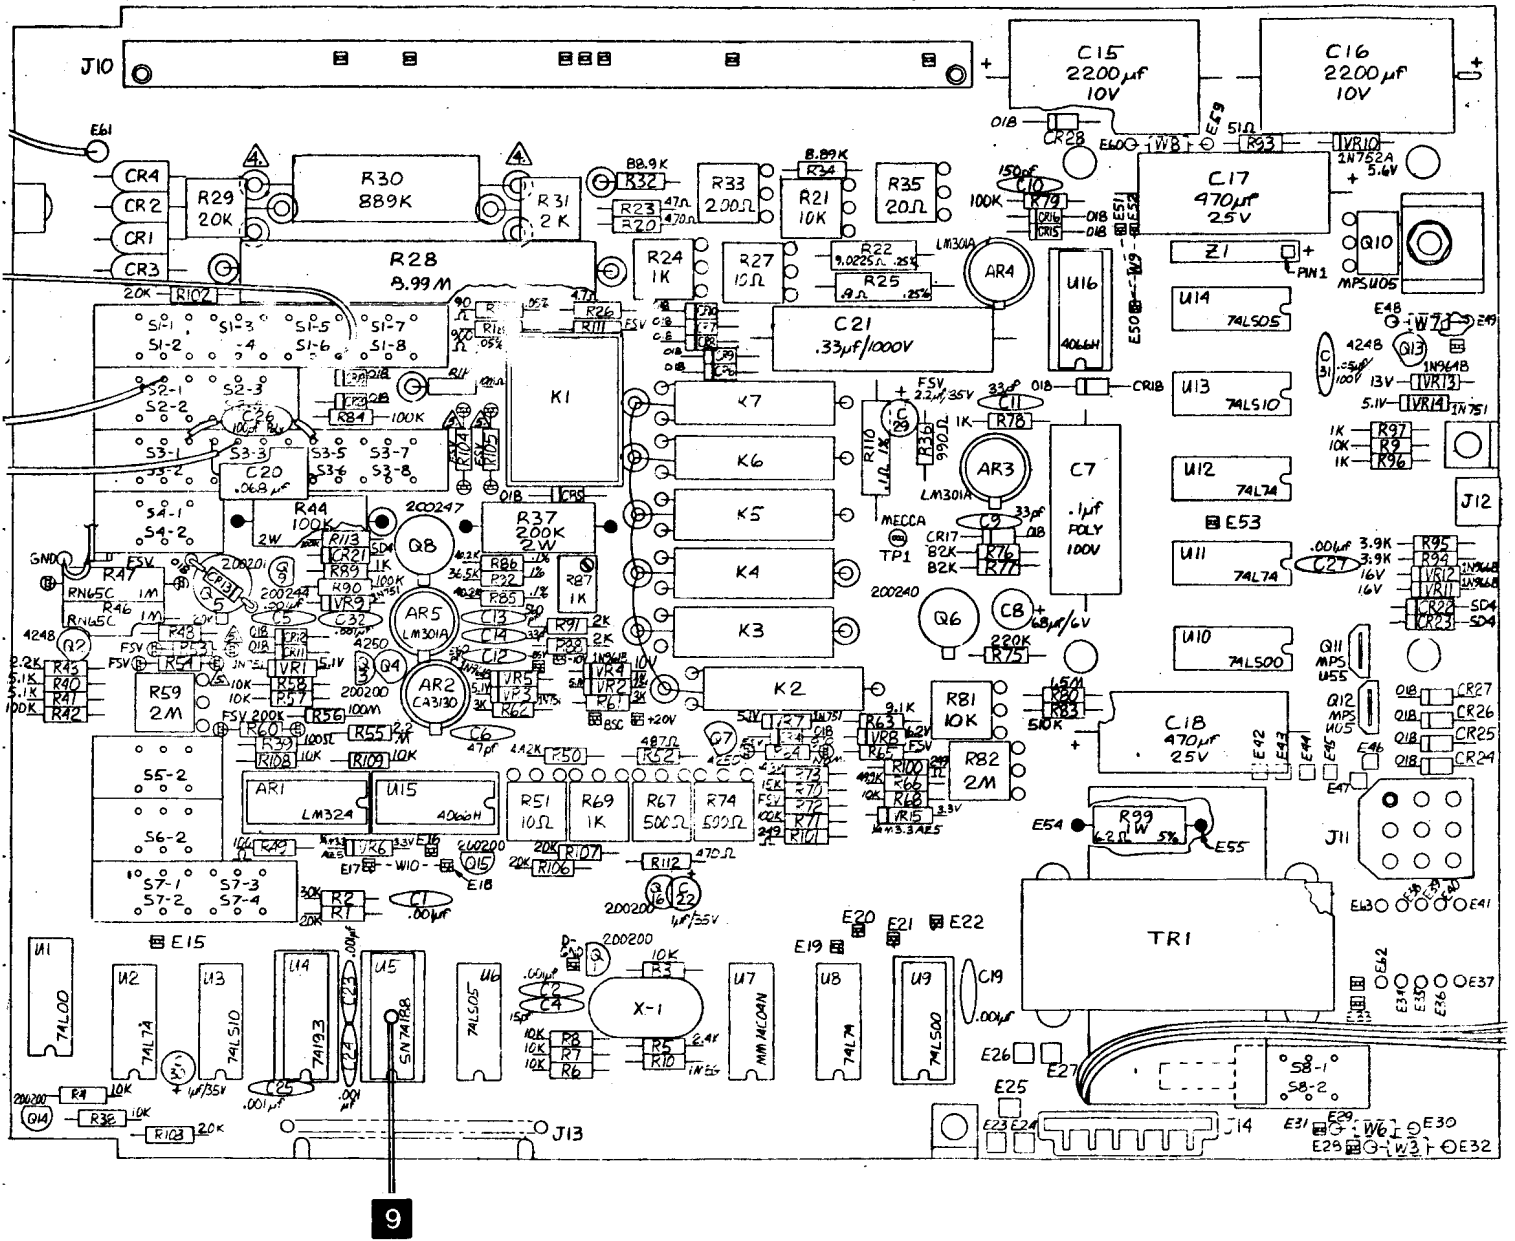

Figure 5.10 - Range and Relay Logic Test Points
5.4.13 The test point 9 specified in table 5.19 refers to the ROM input and output pins on ROM U5 shown in figure 5.10. For the specific pin to be used for testing refer to figure 5.11. For example when performing the DCV check presented in table 5.19 the performance standard column refers to figure 5.11A. At the top of figure 5.11A logic level “checkerboards” are provided to indicate the logic level of each input and output pin of the ROM U5. Note also that every range of the DC function is shown. For example to check the ROM input for the 2 volt range refer to the “IN” checkerboard. In the 2 column all input pins are shown to be logic zero (.1V dc) except pin 12 which is logic level 1 (4.1V dc). Thus it is a simple matter to determine the proper ROM state from figure 5.11 for any function and range combination.